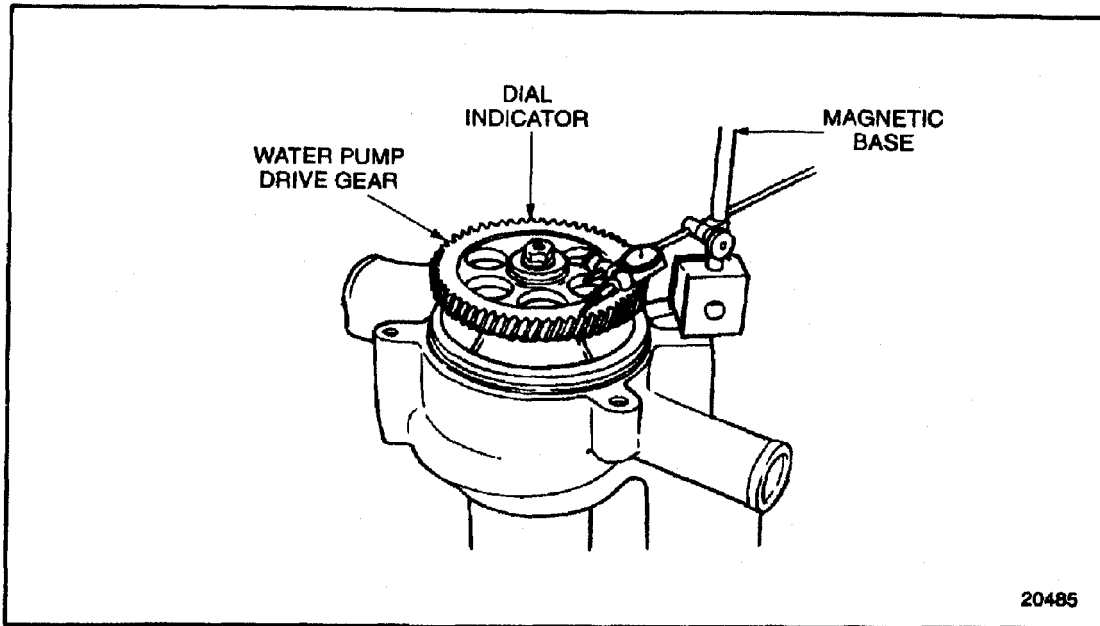

Figure 27-1 Measuring Water Pump Drive Gear Run-out
2. Turn the water pump over and install J 35687, water pump impeller slip and lash tester, into the tapped holes provided in the impeller; see Figure 27-1.